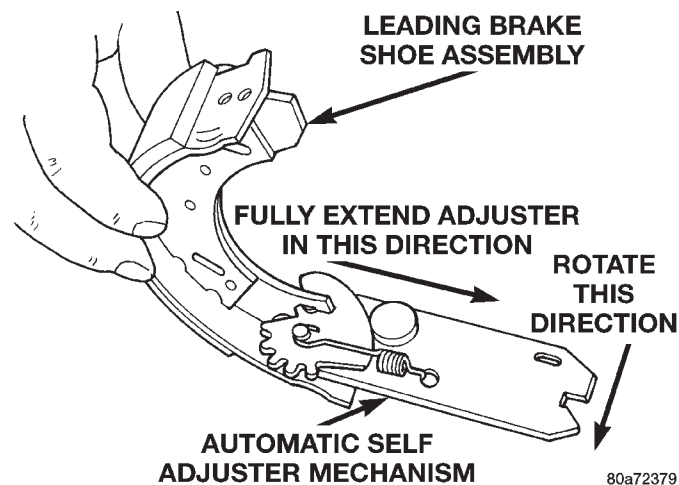

Fig. 70 Removing Adjuster Mechanism From Leading Brake Shoe
(14) Remove the automatic adjuster mechanism from the original leading brake shoe assembly for installation on the replacement brake shoe, using the following procedure. Fully extend the adjuster mechanism in the direction shown in (Fig. 70). Then, with adjuster mechanism fully extended, rotate the adjuster mechanism in the direction shown in (Fig. 70) to separate adjuster mechanism from leading brake shoe.